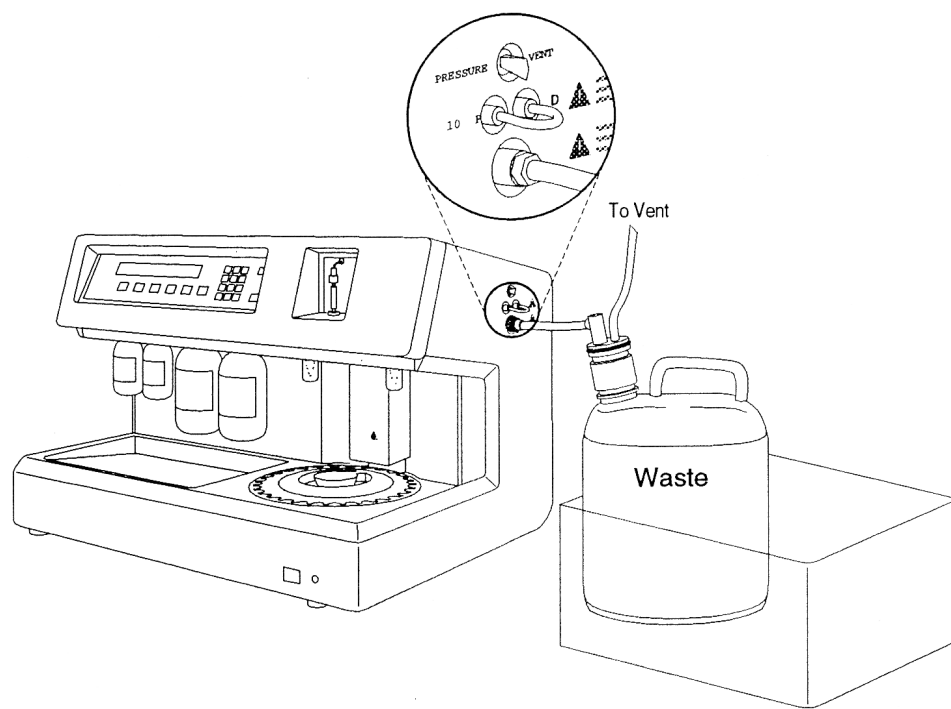

Figure 15. External waste bottle assembly on Synergy
9. Place the waste bottle in a safety carrier (Figure 15). Screw the cap assembly on to the waste bottle.